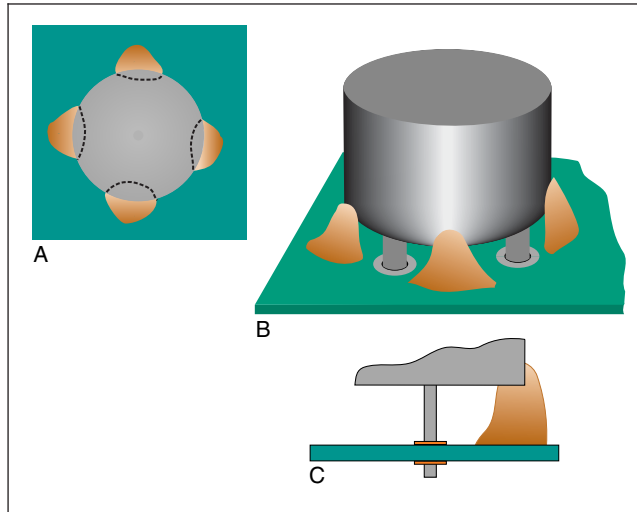

Figure 7-62
- Bonding requirements should be specified in engineering documents, but as a minimum, components are bonded to mounting surface in at least 4 places evenly spaced around component when no mechanical support is used, see Figure 7-62-A.
- At least 20% of the total periphery of the component is bonded, see Figure 7-62-B.
- Bonding material firmly adheres to both the bottom and sides of the component and to the printed wiring board, see Figure 7-62-C.